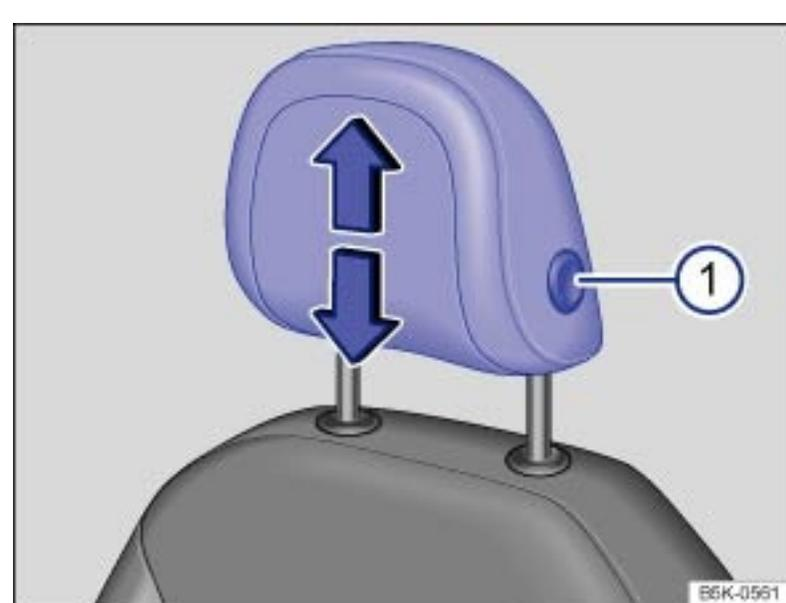
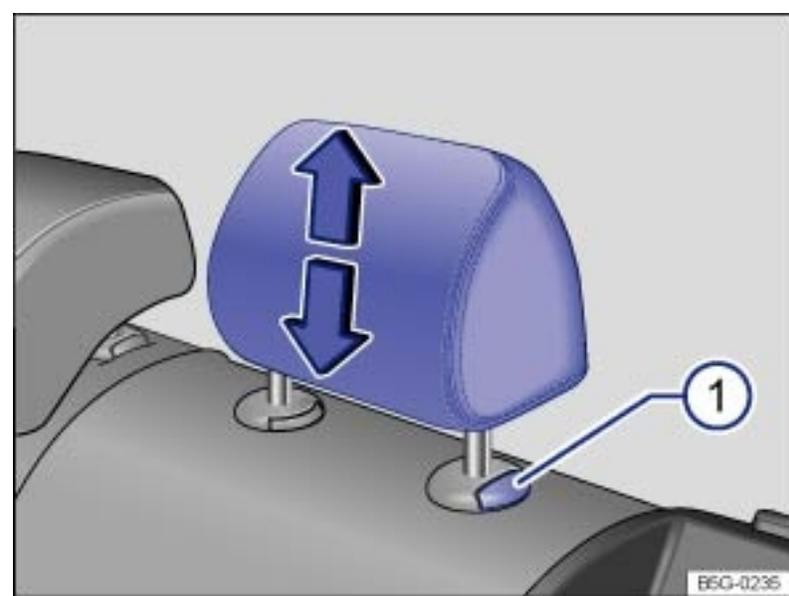

Fig. 42 Adjusting the front head restraints.
Fig. 43 Adjusting the rear head restraints.
- ▶ Pull the head restraint up in the direction of the arrow, or push it down while pressing the button → Fig. 42 ① or → Fig. 43 ① →